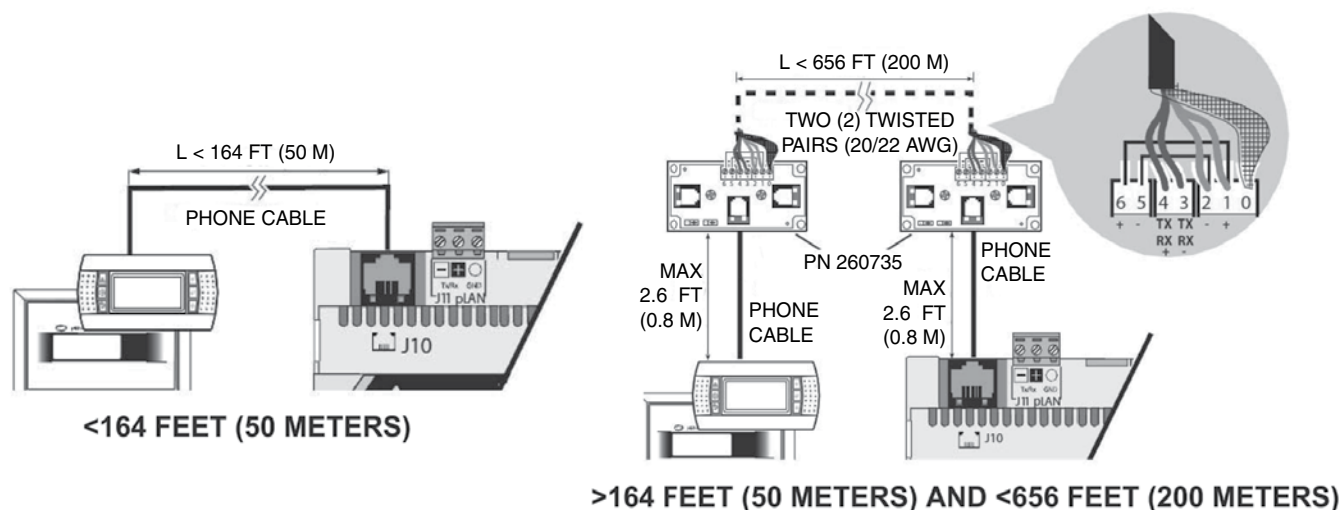

Figure 18. Wall-Mounted Display Installation (Up to 656 Feet (200 Meters) from Unit)
- Field-install up to 656 feet (200 meters) from the unit (see Figure 18).
- Connect the remote display to the J10 terminal (see Figure 18) on the controller using the 6-pin connection cable. The splitter/booster modules may be used but are not required for installations under 164 feet (50 meters) from the unit. Installations greater than 164 feet (50 meters) but less than 656 feet (200 meters) require two booster modules connected with a field-provided 4-pin shielded cable.